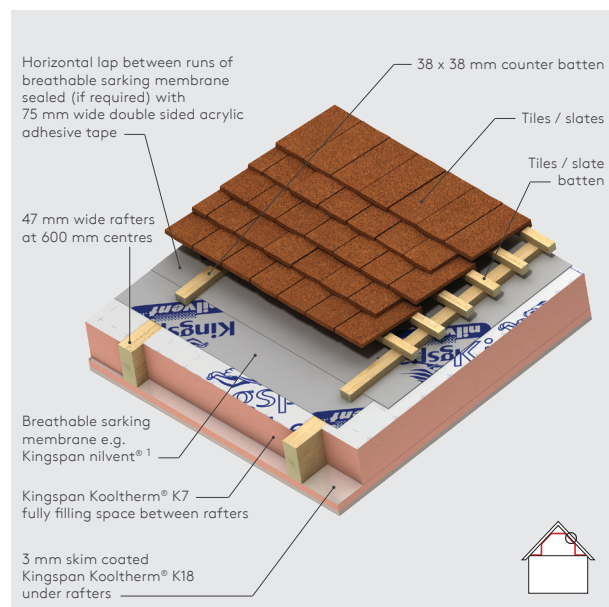

Figure 1a
- 1 In Figures 1a & 3 the breathable sarking membrane can be placed over the counter-battens, draped to provide for drainage and overlain with tile / slate battens. This will yield a marginally better U-value but it will be more difficult to seal the breathable sarking membrane effectively.